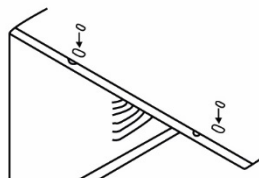

Fig.6
8. Hold the cabinet while pulling on the base pan handle, and carefully remove the unit. (Figure 6)
9. Add two foam inserts to the holes where the shipping screws were removed at the top of the unit. (Figure 6)